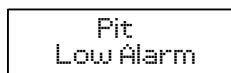

Figure 11. The LCD display when **AL (Pit)** is triggered.
**Note 2. AL (Pit):** This is the low temperature alarm for pit temperature probe (Probe 1). When pit probe reading is lower than AL (Pit) value, the buzzer on the controller will go off and the LCD display will flash between the normal display and the alarm display showing in Figure 11. The alarm has 1° hysteresis. The user can mute the buzzer by pressing either the Up key or the Down key. Temperature must move out of the hysteresis zone to activate the alarm again. For example, if AL (Pit) is set to 180°F. The buzzer will go off when pit temperature drop to 179°F; it will stop when temperature rise above 181°F. The AL (Pit) alarm is suppressed when the controller is just powered up. It will be activated when the pit temperature has reached the target pit temperature. To